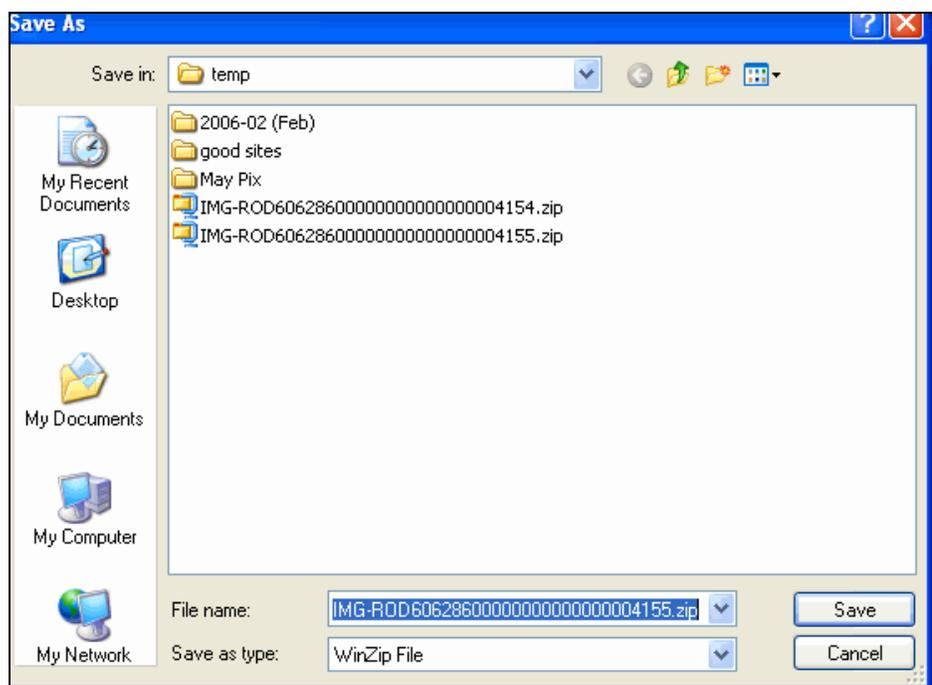

Figure 5.32.4
1. Click the 'Save' button in the File Download window. The system displays a 'Save As' window as in Figure 5.32.4.